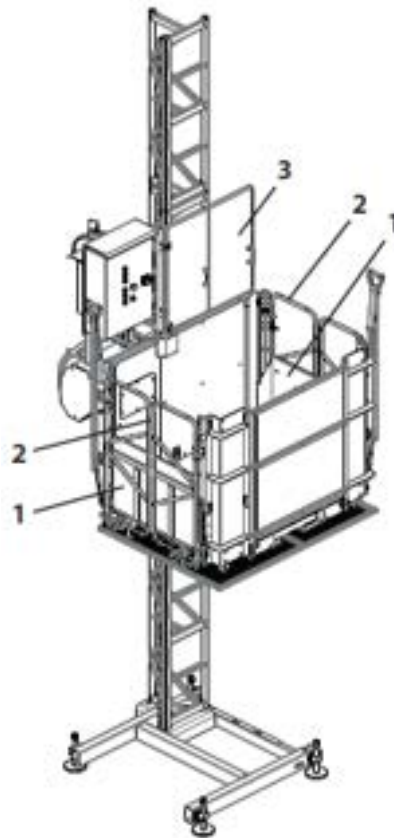

Figure 8.2
The movable guards are shown in figure 8.2; the ramps (1) allows access to the loading unit supported by the hinged doors (2) and of the mast guard (3).